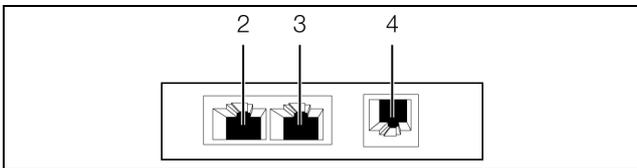

Fig. 10: Rear of the CAN bus sensor
■ Connect one of the following CMC TC sensors to the appropriate connection (fig. 10, item 4).
■ Use a CAN bus connection cable to connect the CAN bus sensor to a CAN bus interface on the CMC III Processing Unit or of the neighbouring component on the CAN bus (fig. 10, item 2).
■ If necessary, connect another component (e.g. another sensor type) to the second, free CAN bus interface of the CAN bus sensor (fig. 10, item 3).